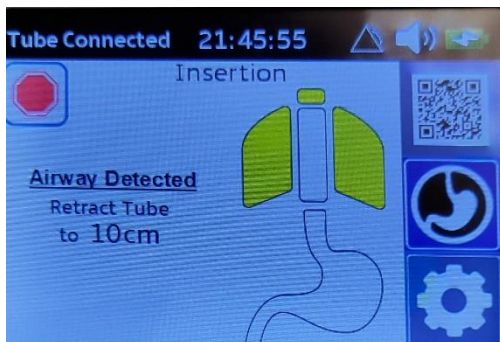

FIG 22: Airway Detected
- If airway insertion is detected (Figure 22), the Monitor will prompt the user to retract the feeding tube to <10cm depth and re-initiate the insertion procedure.
**Caution:** If airway is detected (See Figure 22), do not advance feeding tube.
Monitor prompts user to retract tube to 10cm depth and reinitiates insertion procedure (Figure 22)